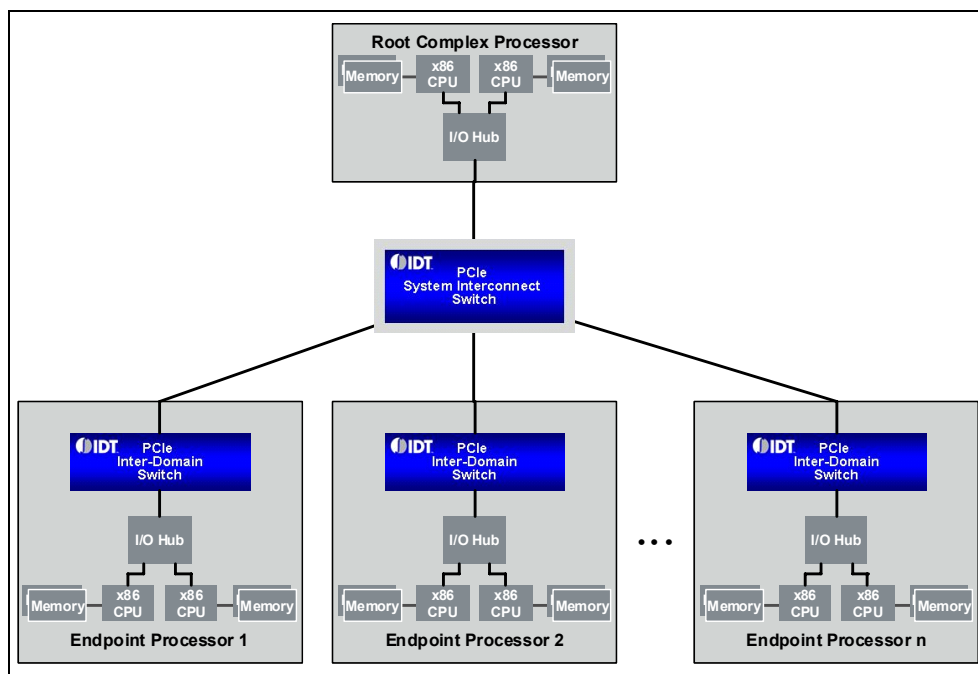

Figure 3 IDT System Interconnect Topology
The IDT System Interconnect Topology^[1] shown in Figure 3 consists of a single x86 based Root Complex Processor (RP) connected to one or more intelligent x86 based Endpoint Processors (EP) via an IDT System Interconnect PCIe switch. An IDT Inter-Domain switch is utilized by each EP to connected them to the downstream ports of the System Interconnect PCIe switch. This topology in conjunction with the IDT System Interconnect Software^[2] allows high speed data transfer between any two peers in the system.